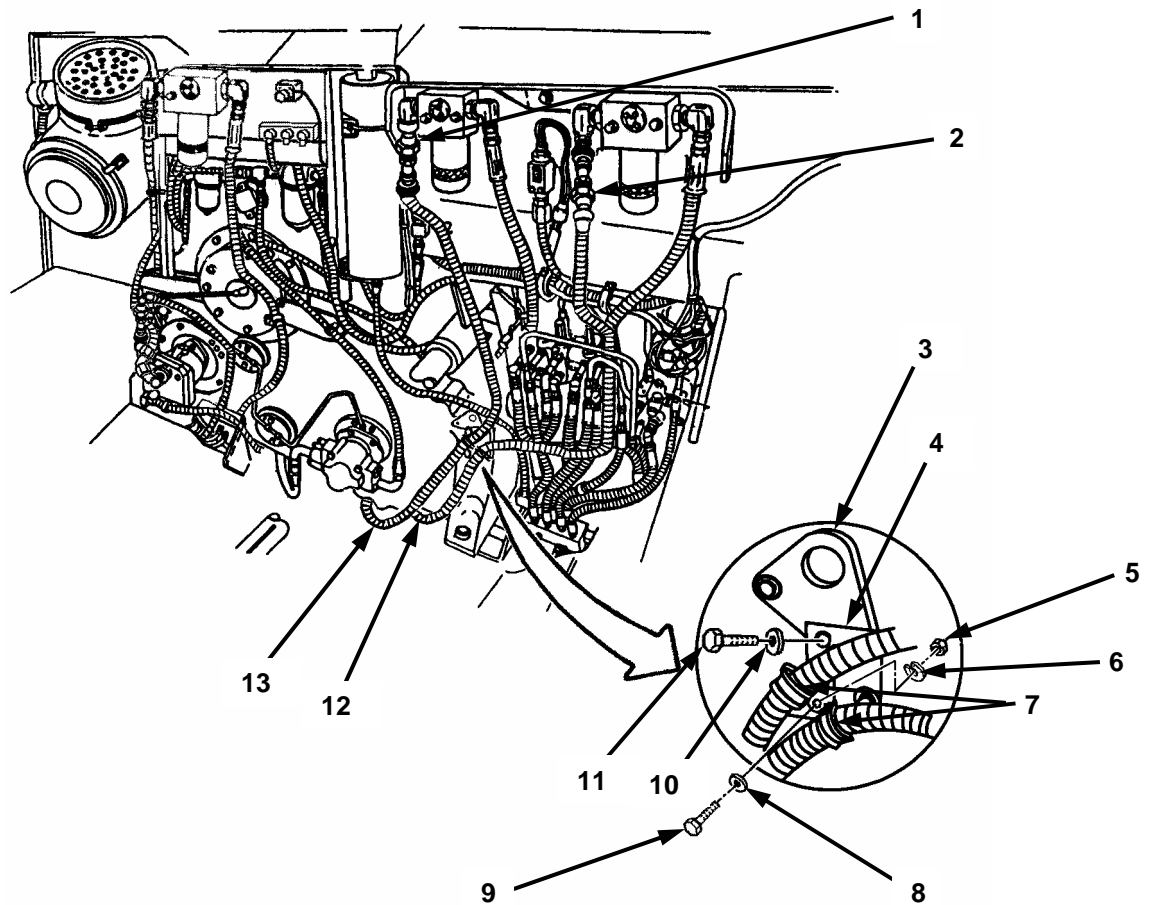

Figure 2-5. High Pressure Filters
Steps (6) through (10) below apply to Figure 2-5.
- (6) Reroute hoses (12 and 13) in front of engine transfer case, between scavenger pump and transfer case motor mount.